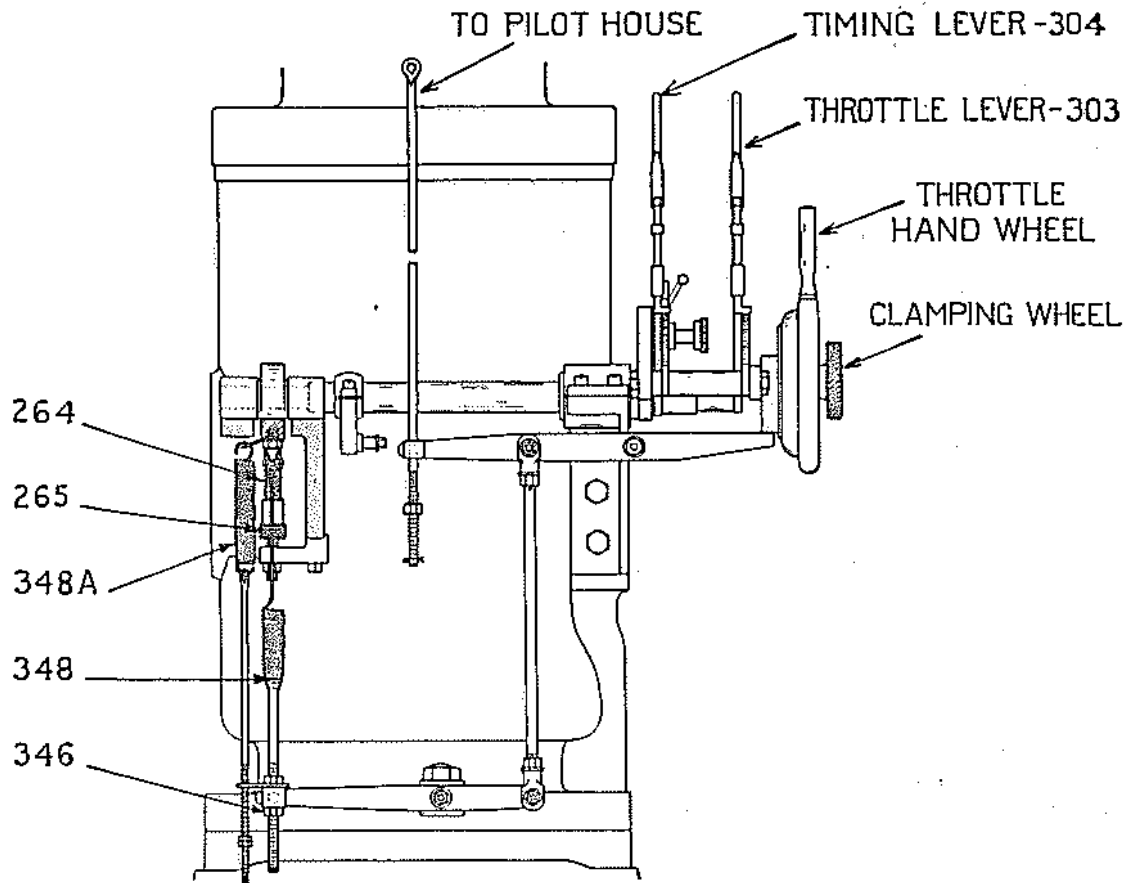

Fig. 12—Engine Controls and Speed Adjustments.
2. Adjust auxiliary throttle hand wheel shown on Fig. 12, page 27 to speed desired and put timing lever 304 shown on Fig. 12, page 27 ahead in correct ahead running position. Make sure cooling water is passing through engine.
1. Move auxiliary throttle hand wheel shown on Fig. 12, page 27 forward until desired speed is reached—tighten in position by turning clamping wheel to right.
1. Place auxiliary throttle hand wheel shown on Fig. 12, page 27 in position for speed desired.
3. If engine misfires with timing lever 304 Fig 12, page 27 in normal running position, advance to idling position. Under certain conditions and with certain grades of fuel it may be necessary to place the timing lever in the center of the quadrant or a little aft of center when idling.
2. Bring throttle lever 303 shown on Fig. 12, page 27 forward on quadrant to stop engine.
4. If full power is required astern, the timing lever 304 shown on Fig. 12, page 27 should be moved aft of central position.
5. Control speed of the engine with auxiliary throttle hand wheel shown on Fig. 12, page 27.
72—Speed Adjustment—For example, if the engine runs at 350 R.P.M. and it is desired to increase the speed to 365 R.P.M., the adjustment on the governor is made by turning the knurled adjusting screw 265 shown in Fig. 12, page 27, and increasing the tension on the speed regulating spring 264 until the desired speed is obtained.
75—Throttle Lever—The throttle lever is the outside one of the twin control levers. See Fig. 12, page 27. To stop the engine, the throttle lever is moved forward. This withdraws the cam, shortens the stroke of the fuel pumps and puts them out of action, causing the engine to stop.
To adjust the auxiliary control spring 348 shown in Fig. 12, page 27, proceed as follows: With engine stopped, place throttle
77—Injection Timing Lever—This is the inside one of the twin control levers shown in Fig. 12 above, and changes the timing of the fuel injection in relation to the piston stroke in a manner similar to the spark control on a gasoline engine. Moving the lever forward advances the timing; moving it aft retards the timing.